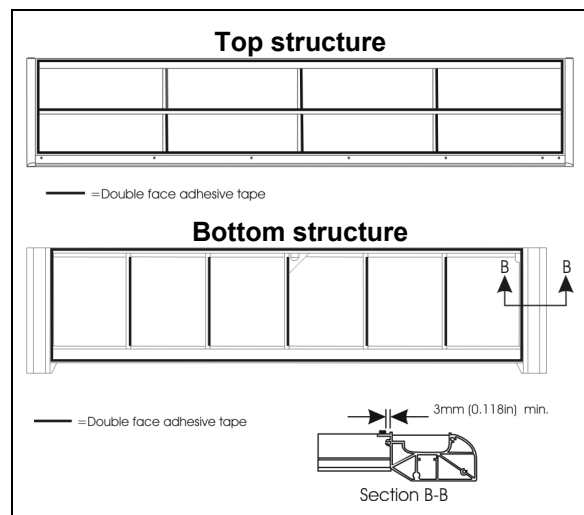

FIGURE 45 : TOP AND BOTTOM PANEL INSTALLATION - DOUBLE FACE ADHESIVE TAPE APPLICATION
2. Refer to FIGURE 45 for 1/16x1/4 double face adhesive tape location on structure;